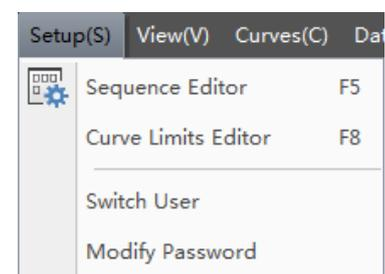

Figure 3.7 Setup Menu
3.2.4 Setup (S)
The drop-down menu of “Setup (S)” is shown in Figure 3.7.